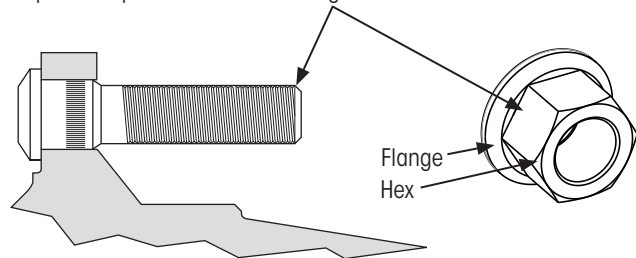

Figure 54: Lubricating stud and two-piece flange nut
- C. **Apply** two drops at the point between the flange and hex of the nut (Figure 54).